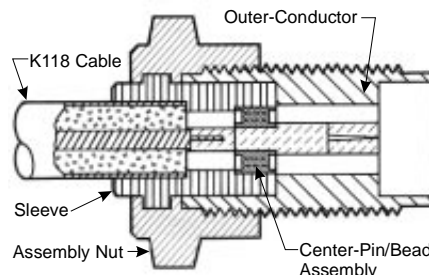

Figure 2. Female K Connector®, Assembled
g. Slide the sleeve onto the cable, as shown in Figure 2.